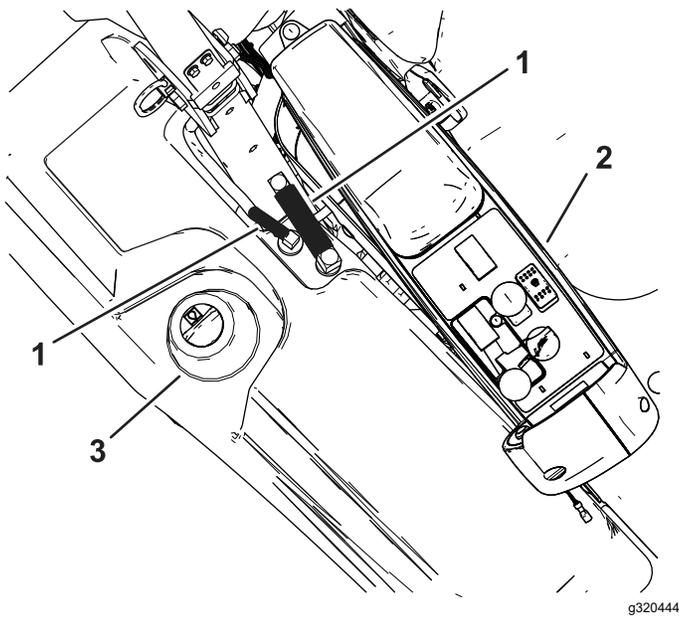

Figure 9
5. Install the vent hoses shown in Figure 9.